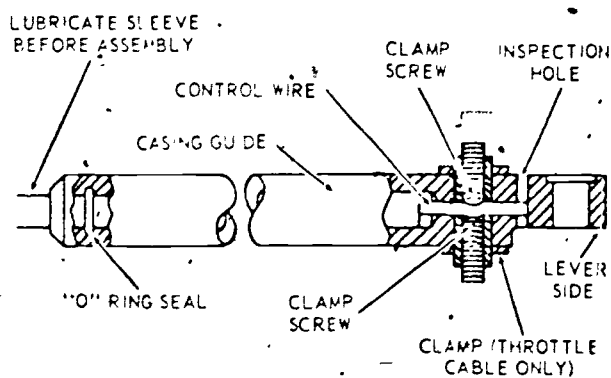

FIGURE 1
2. Remove control wire clamp screw from casing guide (Figure 1)